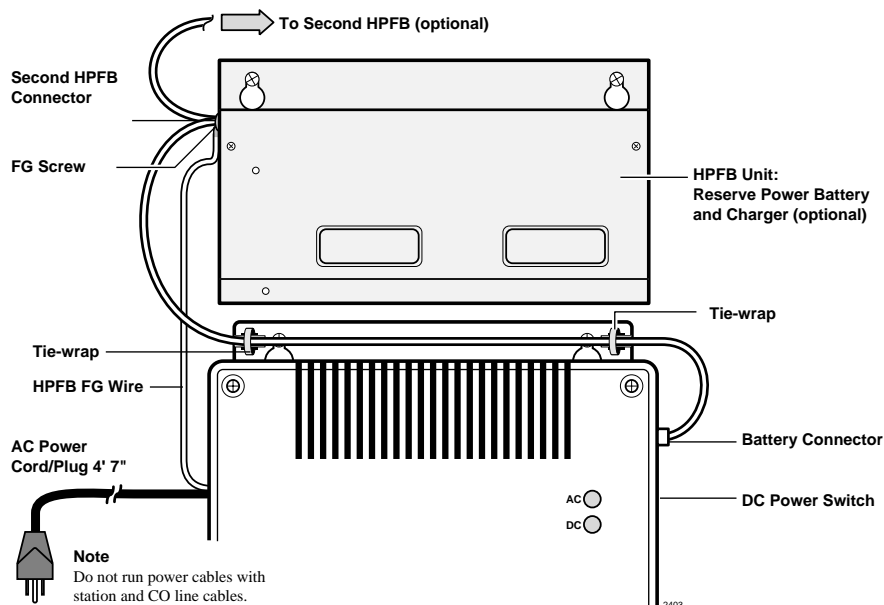

Figure 1-7 DK14 Reserve Power Installation
1. Place the HPFB directly above the DK14 KSU (Figure 1-7).